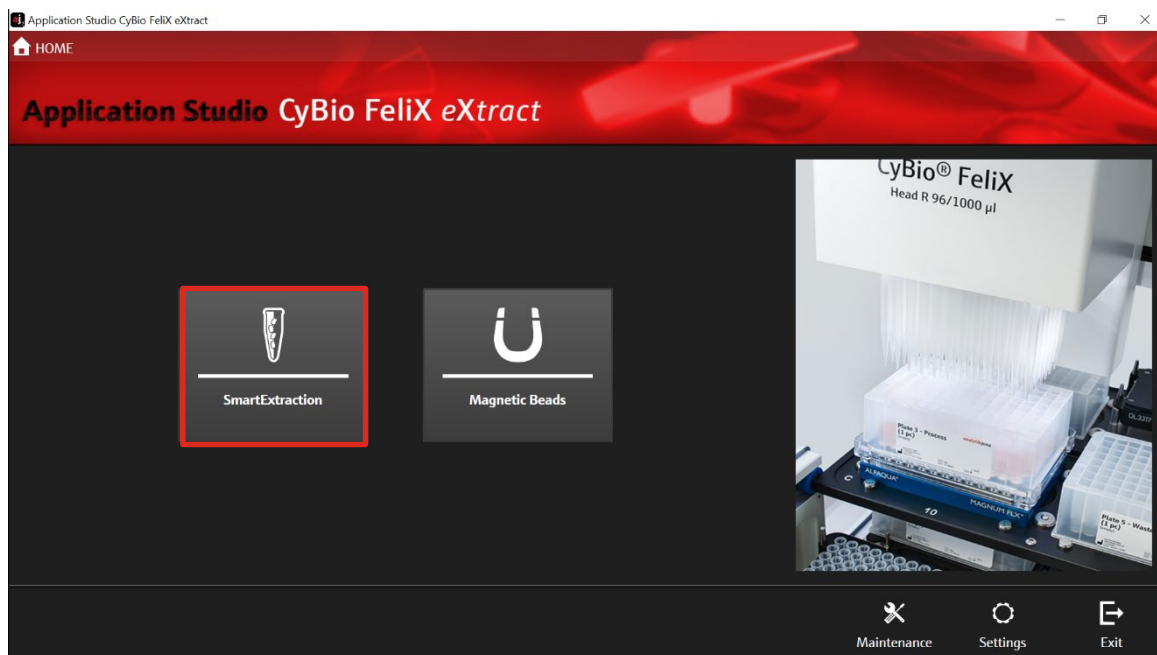

Figure 12: Homescreen of AppStudio FeliX *eXtract*. Selection of extraction technology: SmartExtraction.
5. Select the extraction technology “SmartExtraction” (→ see Figure 12).